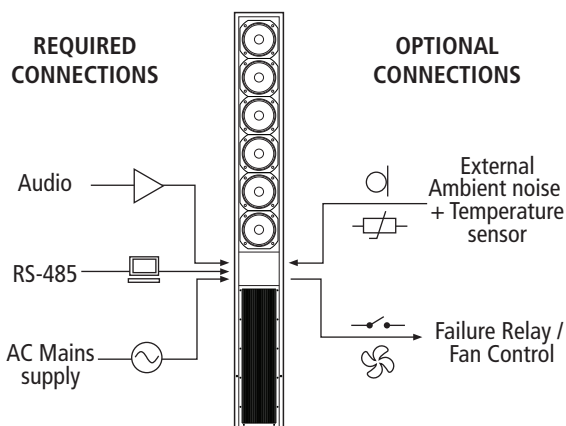

fig.4 - Intellivox Connections
- In addition to the mains supply, some or all of the following cables (shown in fig 4) will need to be run to the loudspeaker position. The necessity for each of these will have been determined by the system designer; the installer should ensure that he/she has these details to hand. Depending on the specific access issues, it may be better to ensure that these cables are in place and correctly terminated "ready-to-plug-in" before the Intellivox is mounted in position. All wiring details can be found on pages 9-15.